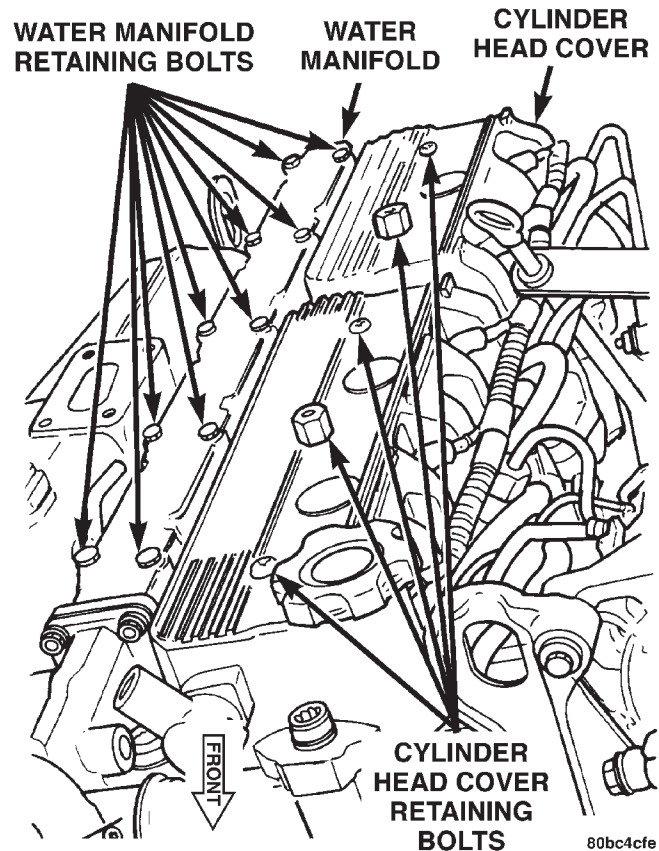

Fig. 72 Cylinder Head Cover
- (19) Install the cylinder head cover. Torque bolts to 15 N·m (133 in. lbs.) (Fig. 72).
- (20) Connect the crankcase breather hose to front of cylinder head cover.
- (21) Connect the injector sensor wire and the glow plug hot lead.
- (22) Install the turbocharger oil feed line. Torque banjo bolts to 27 N·m (20 ft. lbs.).
- (23) Install the turbocharger oil return line. Torque bolts to 11 N·m (97 in. lbs.).
- (24) Install the water manifold. Torque bolts to 12 N·m (106 in. lbs.).
- (25) Raise the vehicle on hoist.
- (26) Install the exhaust pipe to turbocharger. Torque bolts to 32 N·m (23 ft. lbs.).